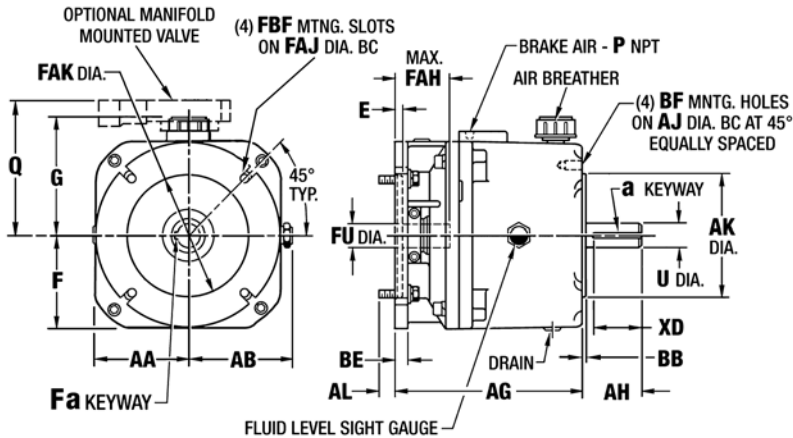

Figure 2.1 - Coupler Brake Dimensions
1. All other dimensions are the same as shown in Figures 2.1 & 2.2.
All other dimensions are the same as Horizontal Mounting shown in Figures 2.1 & 2.2.